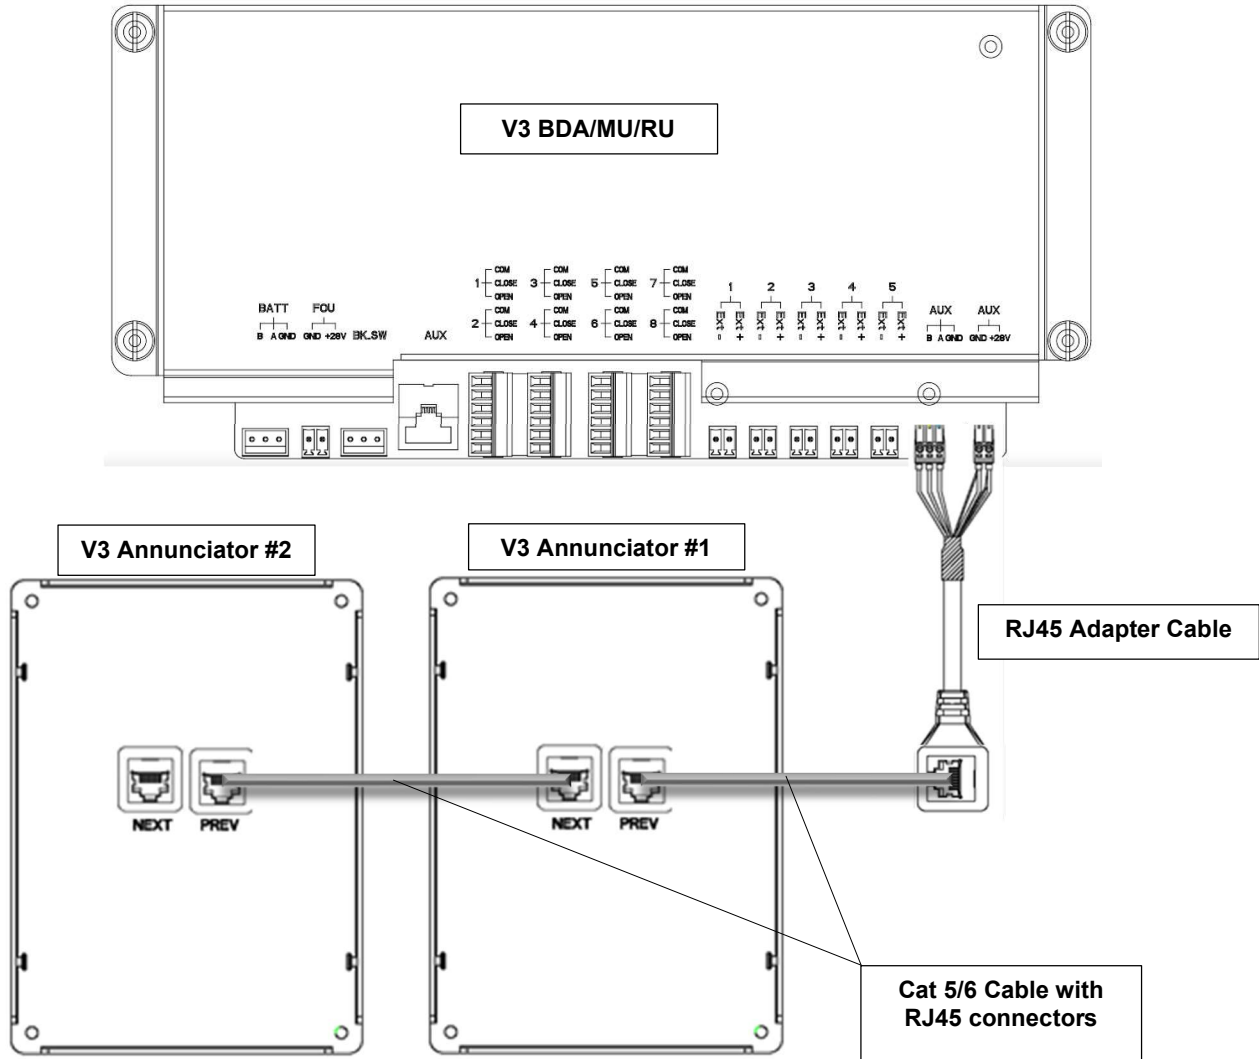

Figure 37: V3 BDA/MU/RU Wiring Connection to V3 AP
Follow the below instructions, Figure 37 below, to connect a V3 AP to the V3 BDA/MU or RU:
- Connect the RJ45 adapter to the BDA/MU/RU as shown in the figure 37 below.